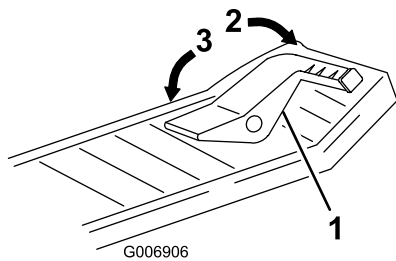

Figure 14
2. Place your foot on the traction control pedal and slowly press on the top of the traction control pedal to move forward or on the bottom of the pedal to move backward (Figure 14).